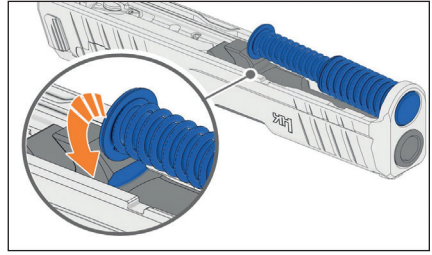
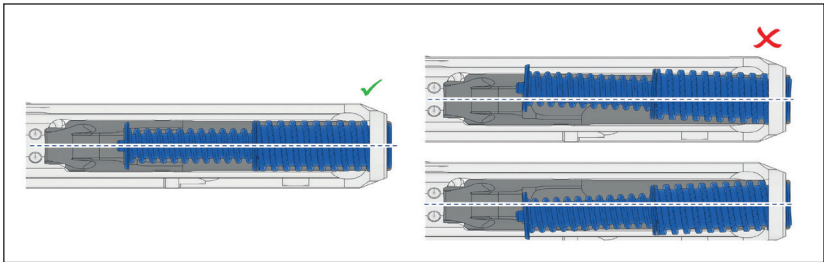

Figure 27 – Rest recoil spring assembly
Figure 28 – Installation position of recoil spring assembly
4. Brace recoil spring on the control surfaces on the barrel (Fig. 27). Note installation position of recoil spring. (Fig. 28).